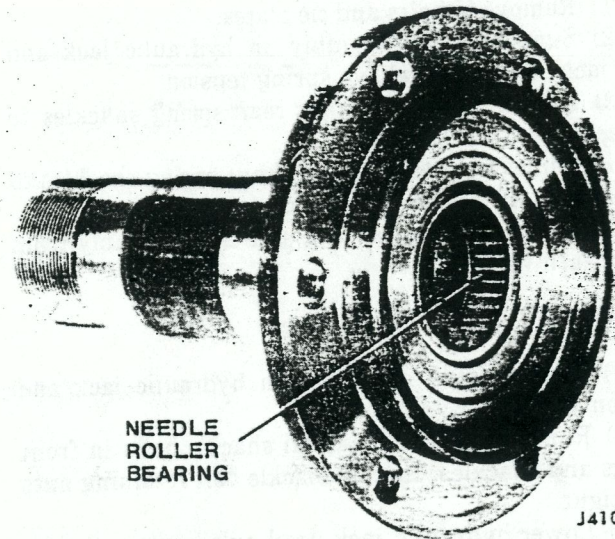

Fig. 2F-15 Spindle Bearing Location
**NOTE:** Front axle spindles are equipped with a needle roller bearing that is located in the spindle flange bore (fig. 2F-15).
(1) Wrap machined surfaces of spindle with tape and mount spindle in vise. Do not clamp spindle in vise until protective tape is applied to spindle surfaces.